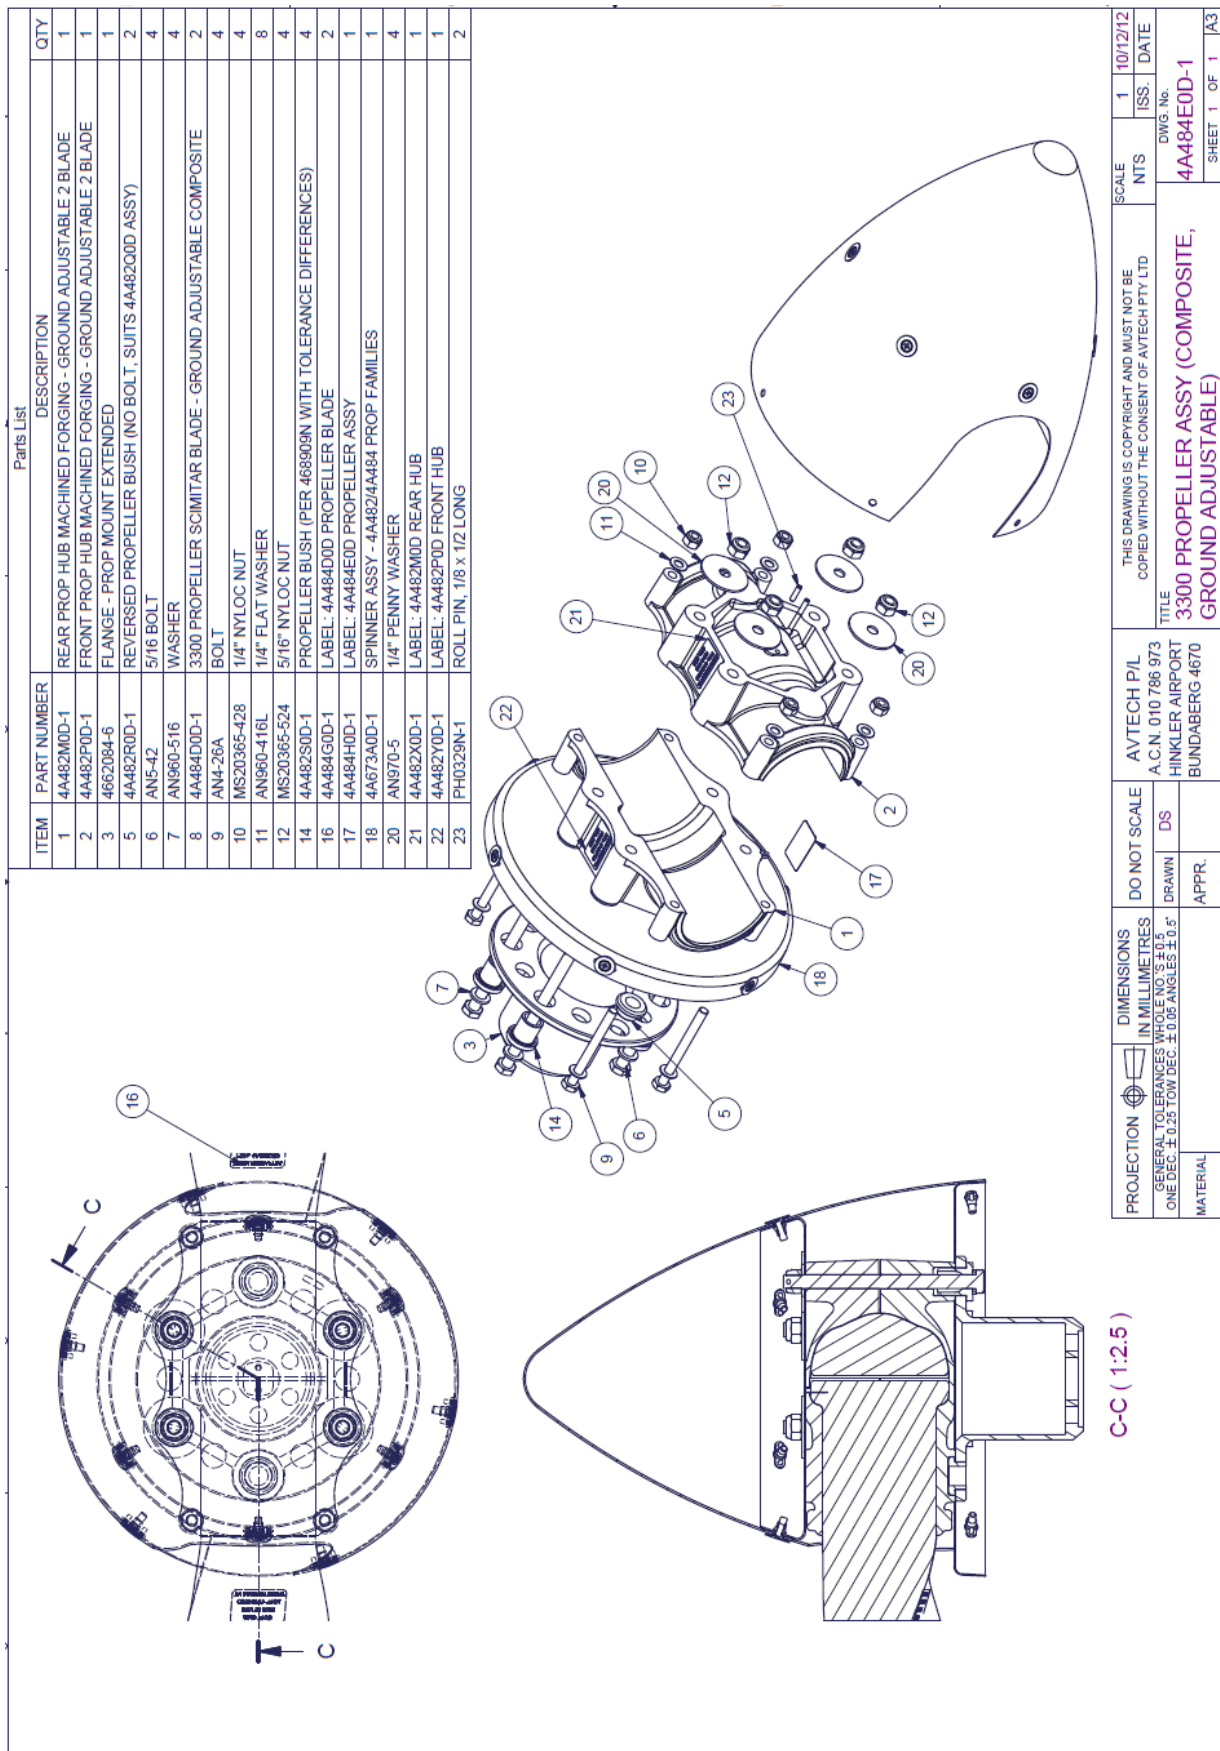

Figure 189 - Scimitar propeller installation (all J-Series)
- Refer to Figure 189 for the installation of Jabiru Composite scimitar propellers